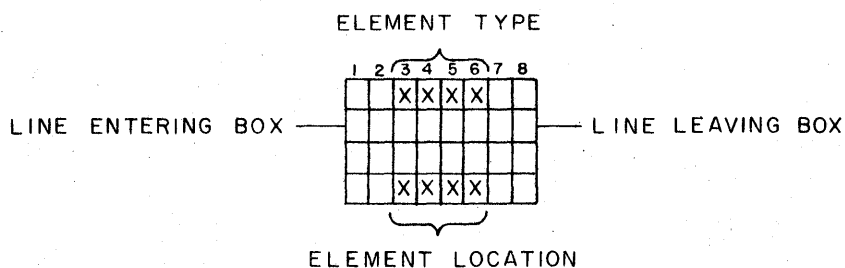

FIGURE 5.7-4. ELEMENT LOCATION AND TYPE DESIGNATION
The location of an Element is depicted in character positions 3 thru 6 on the bottom row of an element box, Figure 5.7-4, and is comprised of the Rack (3), Panel (4), Connector Block Row (5) and Connector Block Column (6). The 'From' or 'To' pin designations are depicted in character positions 1 and 2 for a line entering an element box or character positions 7 and 8 for a line leaving an element box. Figure 5.7-5 gives examples of the above.
The Element Type is depicted in character positions 3 thru 6 on the top row of an element box (Figure 5.7-4). The Element Type transcription for 'From' pins appears in Vertical Columns 21 thru 24 and for 'To' pins, in Vertical Columns 32 thru 35, (Figure 5.7-5B). These character positions contain abbreviations which indicate the type of elements connected together. Most of the abbreviations may be found in the Design Automation Element representation book. The following list contains additional abbreviations that may appear in these columns: